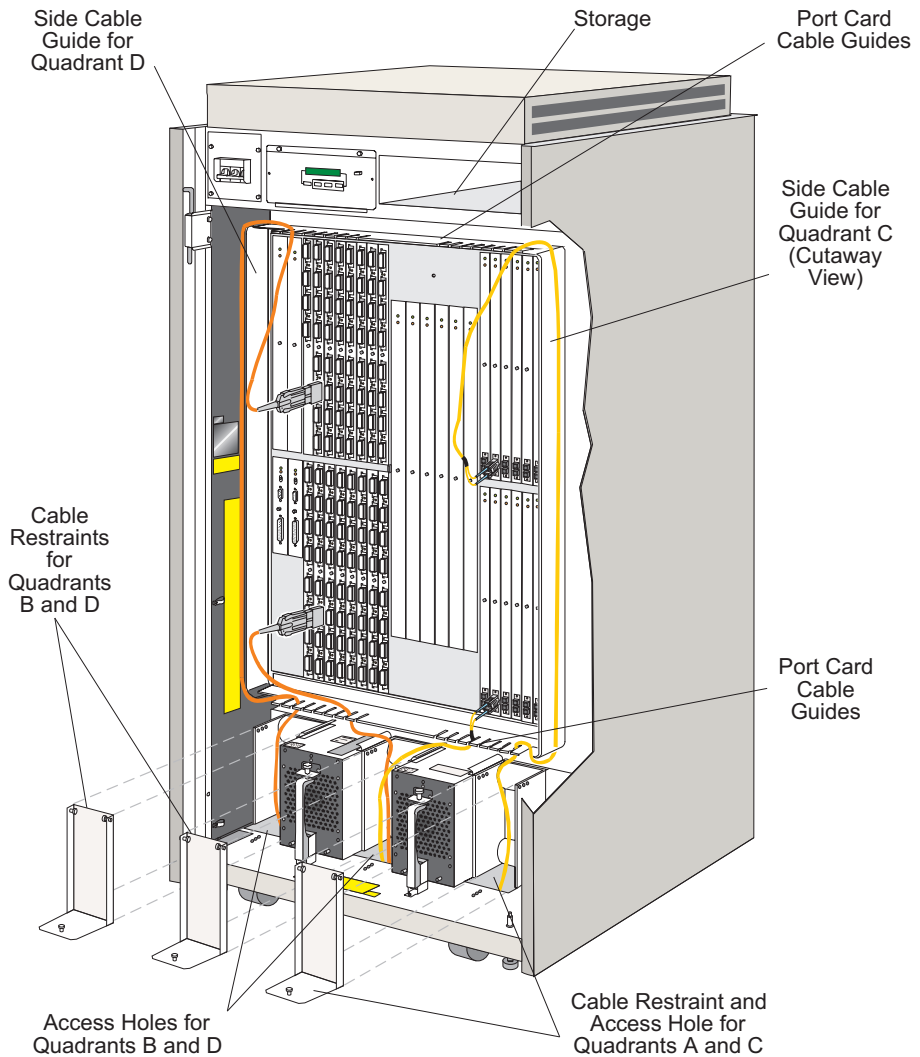

Figure 6-25. Director Cable Routing, Guide, and Restraint Areas
7. To remove the fiber optic cables from the cabinet, refer to Figure 6-25 and complete the following steps: